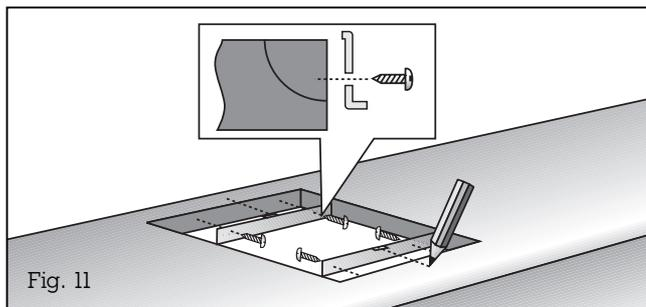

Fig. 11
- **Mark the centre of the recess exactly.** Secure the securing rails on the front and rear edges of the recess. Make sure that the lugs of the securing rails lie on the worktop and that the centre marking of the securing rails is precisely flush with the centre marking on the worktop (Fig. 11).